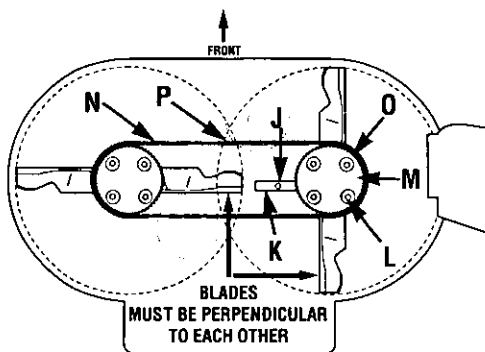

Figure 5-6: Blade Spindle Belt.
3. Align sight holes (O, Figure 5-6) in pulley with spindle housing-to-mower deck mounting bolts (L).
4. Loosen screw (J) and rotate arm (K) to the rear.